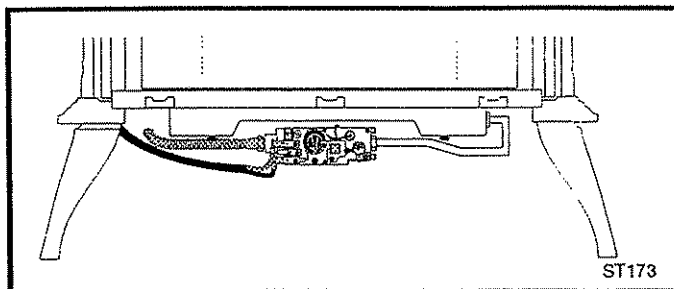

Fig. 42 Flexible gas supply line connection.
2. **Connect the main gas supply line** to the inlet on the left side of the control valve. (Fig. 42)